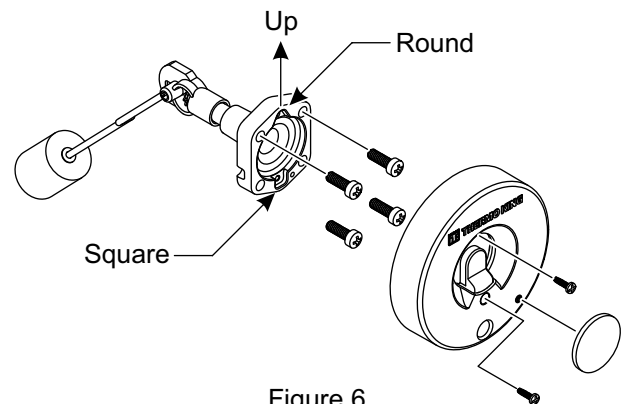

Figure 6
3. Insert the "bent arm" float assembly with the correct orientation see figure 6. Secure float assembly with the 4 bolts (1/4-28) to the tank and torque to 20-50 in lbs.